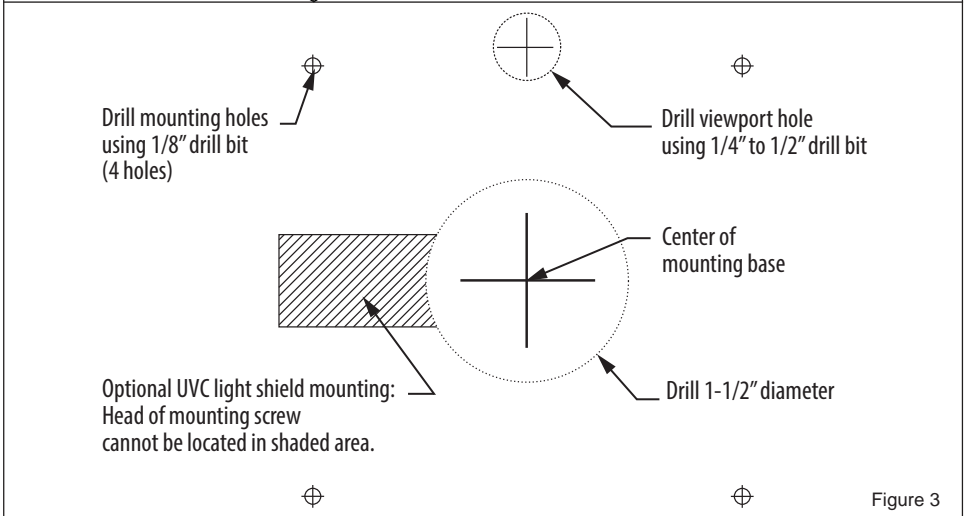

Figure 3
- Drill 1/8" diameter mounting holes at positions indicated on template (Figure 3).
- Cut out the large opening (1-1/2" hole) on the template (Figure 3).
- Using a 1/4" to 1/2" drill bit, drill a viewport hole as indicated on the template (Figure 3).
- Attach the CX-Aire mounting base onto the plenum with (4) sheet metal mounting screws. (Refer to template in Figure 3.) This must be tight in order to activate the built in safety switch.